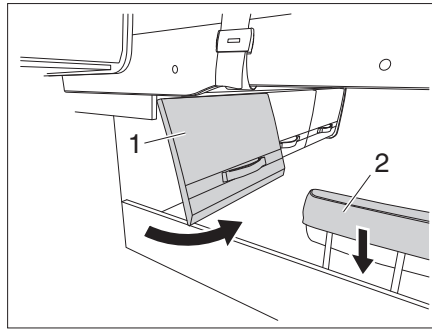

Fig. 155 Storage compartment flap and headrest
- Open the storage compartment flap (Fig. 155,1).
- Lower the headrest (Fig. 155,2).